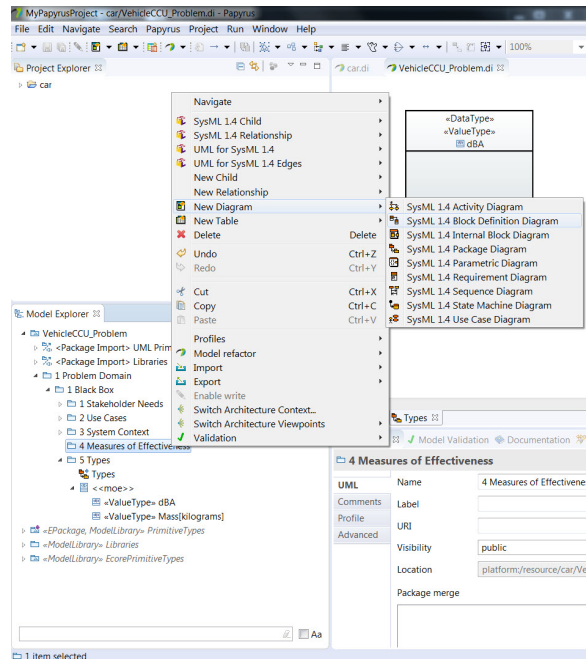
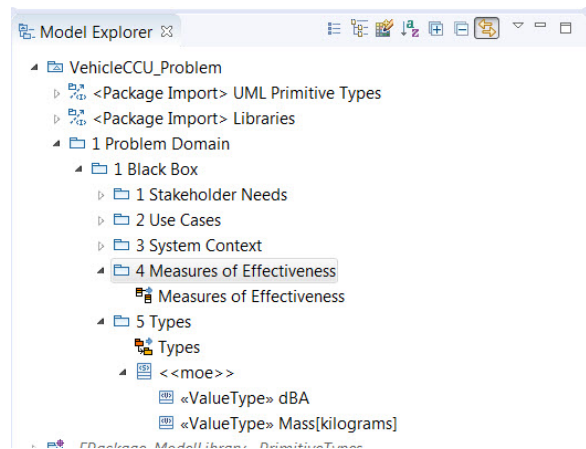

Figure 78: Create Block Definition Diagram.
Figure 79: *Measures of Effectiveness* BDD.
- Now that we have created our two value types let's get to our MOE's. Right-click the *4 Measures of Effectiveness* package in the *Model Explorer* and select **New Diagram** and then **SysML 1.4 Block Definition Diagram** (figure 78) and name it *Measures of Effectiveness*. Your *Model Explorer* window should look like (figure 79).